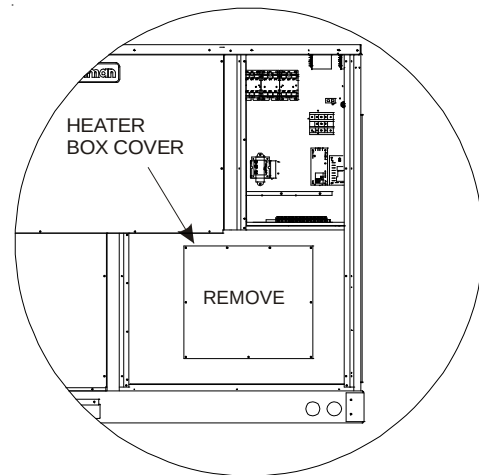

Figure 1
5. Locate heater box. Remove screws holding the heater box cover in place. See Figure 1.